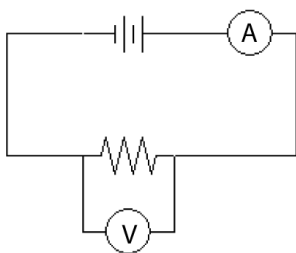

Figure 2.12: Schematic for Step 1
1. **Construct the circuit shown in Fig. 2.12.** Refer to the Suggestions section above. Choose a resistor that has a resistance of at least  $1000\ \Omega$ , so that we can neglect the  $\sim 6\ \Omega$  internal resistance of the ammeter. Choose a voltage setting on the power supply, and read off the voltage and current from the meters. Then use Ohm’s Law (Eq. 2.1) to experimentally5 determine the resistance. Record your measurements in Data Table 1 in your Excel spreadsheet. Refer to Eq. A.2 to calculate the uncertainty in your experimentally determined resistance. Compare your measured value (Ohm’s Law value) with the nominal value given by the color code (Question 1).